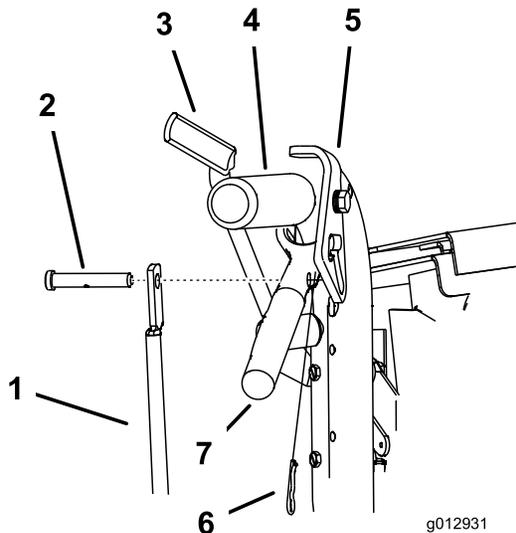

Figure 18
- Remove the hairpin cotter pins and clevis pins from the drive levers and neutral locks (Figure 18).
- Adjust the control rod length by rotating the control rod in the rod fitting (Figure 18).
- Install a hairpin cotter between the drive levers and the neutral locks and into the clevis pins (Figure 18).